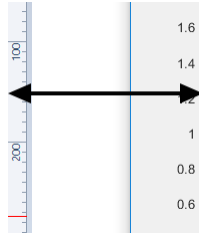

Figure 1: Value of `dist_left`.
- Description: distance between the left border of the drawing area and the left border of the screen (as in Figure 1).